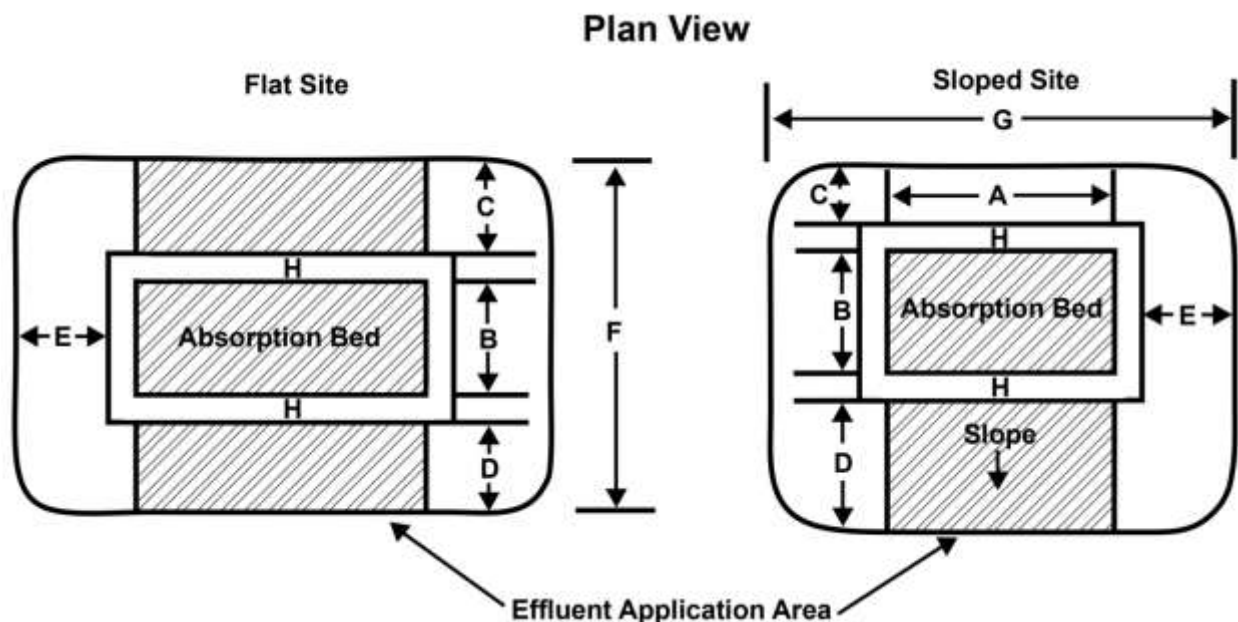

Figure 4-30. Design illustrations for sand mound installation on flat and sloped sites (use with sand mound design checklist).
7. Sand fill area must be as long and narrow as practical, with plan view dimension G exceeding dimension F (Figure 4-30).
Figure 4-30 and Figure 4-31 can be used with Table 4-23 and Table 4-24 (sand mound design checklist) for flat and sloped sites.